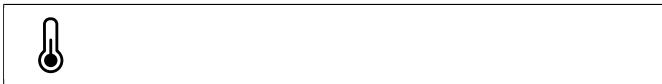

Figure 7: TEMPERATURE
1. Select **TEMPERATURE** (see **Figure 7**, Page 5) and press **OK**.